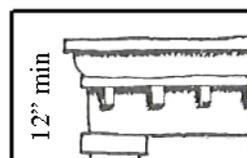

Figure 12
- Peaked or pitched roof elements shall cover at least 50% of the length of a façade facing the primary street frontage. Mansard roofs and/or cornices (minimum 12" in height with a minimum of 3 reliefs. See Figure 12.) may be counted toward meeting 25% of the required horizontal length. Peaked or pitched roof elements shall cover at least 25% of the sides of a building.